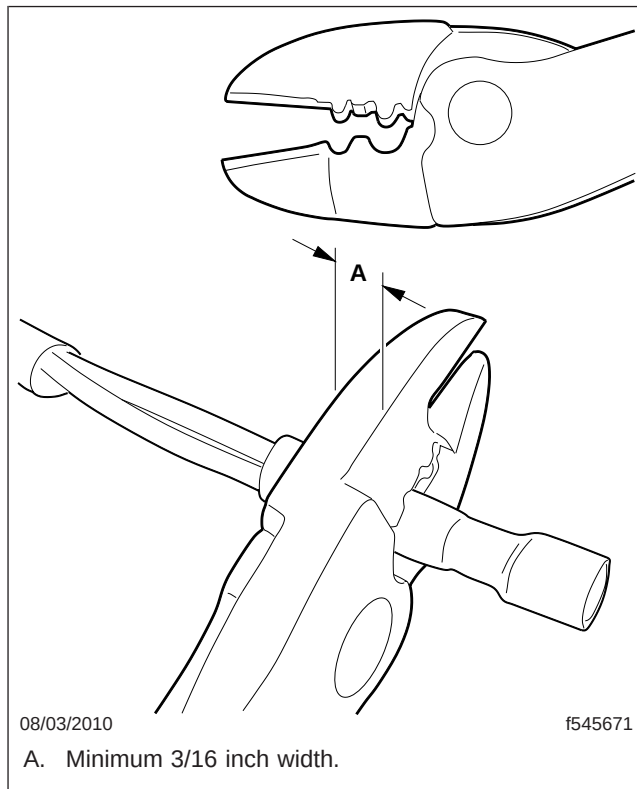

Fig. 1, Dimple-Type Crimp Tool
- A dimple-type crimp tool with a minimum 3/16 inch width. See Fig. 1 for an example of a proper crimp tool. A typical manufacturer for this tool is Thomas & Betts.